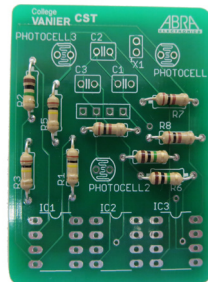

Fig.3
3. Install and solder R7, R8 and R9 (100) resistors as per fig.3.